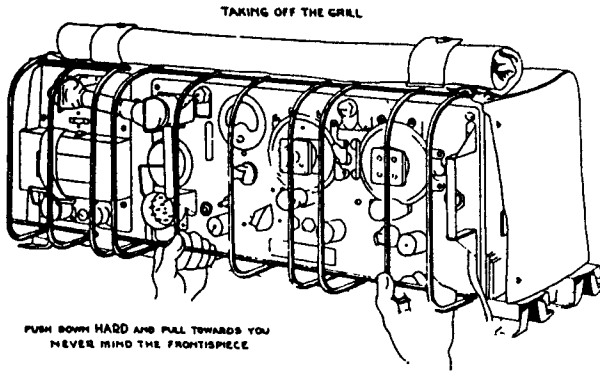

FIG. 2—REMOVING THE GRILLS
- (a) To take off the grills, as illustrated in Fig. 2.